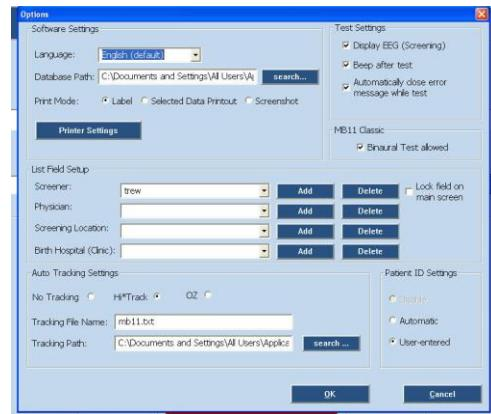

Figure 8
5.5.2 Menu "Settings" (Figure 8)